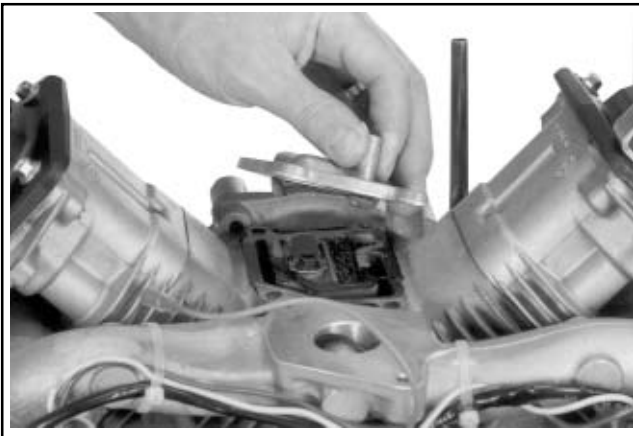

Figure 9-37. Removing Breather Cover.
5. Remove the breather cover and gasket (if used). See Figure 9-37.